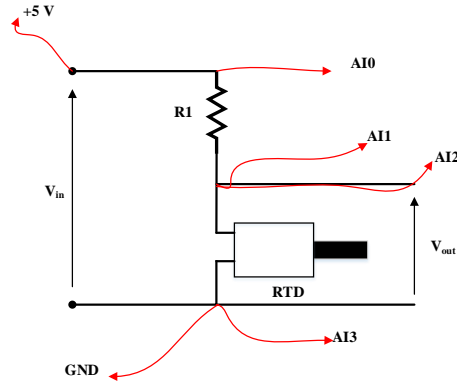
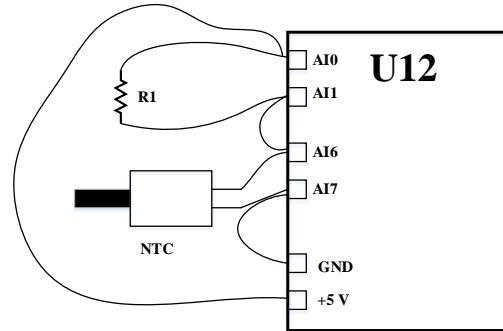
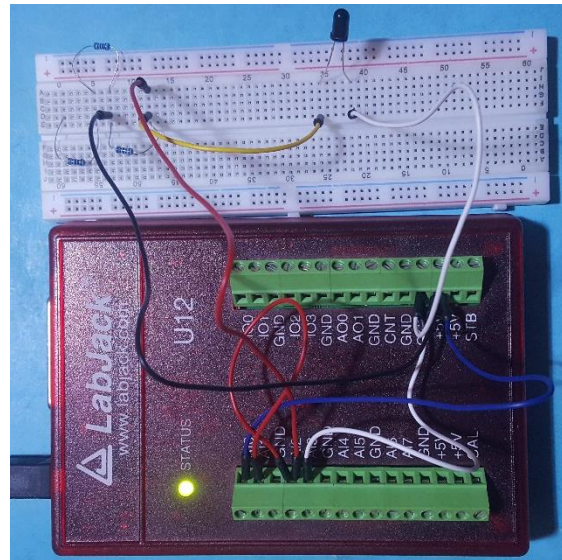

Figure 2. An RTD in a potentiometer circuit
Figure 8. LabJack Wiring Diagram for an NTC
Figure 9. Wiring image of an NTC to LabJack U12
As the temperature is converted into a resistance by the RTD, it is necessary to use an adequate converter circuit in order to convert the resistance (R_T) into a voltage. There are various types of circuits that can be used: a potentiometer circuit, a Wheastone Bridge circuit, etc. For this laboratory practice, a potentiometer circuit has been used, as shown in figure 2. The voltage drop across the resistor R_1 and the output (or the measured) voltage are given by equation (2), when assuming an open output.
- Step 5: Right click on the left side of the formula node rectangle to add inputs. For this experiment, there are six inputs to add: V_r , V_{rtd} , A (alpha), T_0 , R_{T0} and R (which represents resistor R_1 figure 2).
In order to convert the resistance (R_T) into a voltage, a potentiometer circuit (like in figure 2) is used. The wiring diagram of the thermistor is shown in figure 8 and the wiring image shown in figure 9. For this experiment, the used thermistor is a Negative Temperature Coefficient (NTC) one having as characteristics: $\beta = 3455$; $T_0 = 25^\circ\text{C}$ and $R_{T_0} = 10\text{ k}\Omega$.
- Step 5: Right click on the left side of the formula node rectangle to add inputs. For this second experiment, there are six inputs to be added: V_r , V_{ntc} , B (Beta), T_0 , R_{T0} and R (which represents resistor R_1 in figure 2).